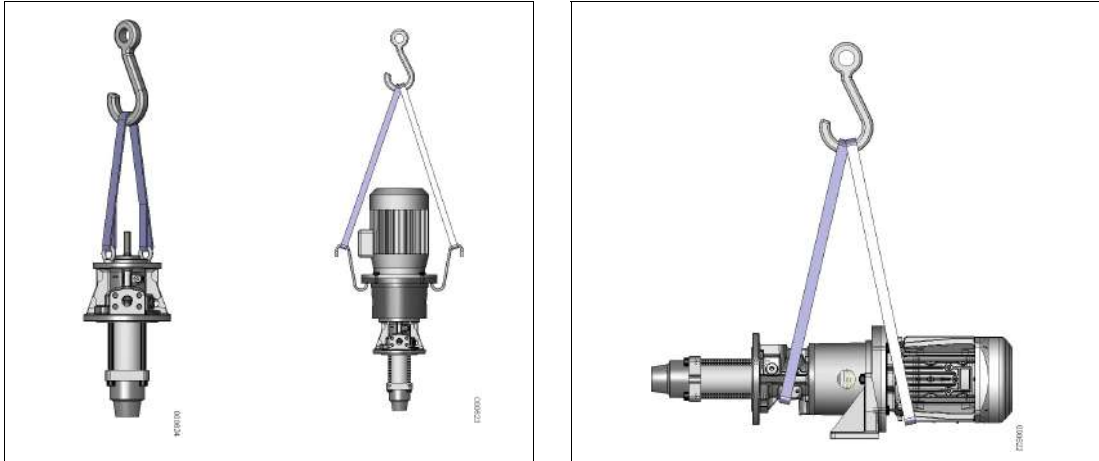

Fig. 1 Raising the pump/motor-driven pump
- ▶ Attach the hoisting equipment in accordance with Figure 1.